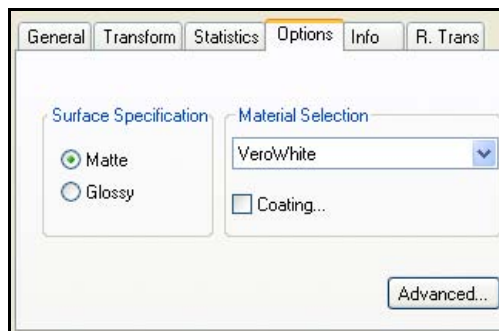

Figure 5-18: Object properties, *Options* tab
- In the object properties dialog box (see figure 5-18), click  Coating...